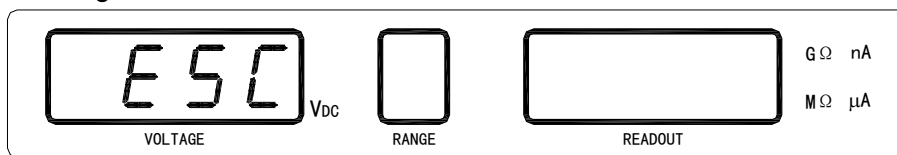

Figure 3-2 Exit The Main Setup Menu
- 5) Press **▲** or **▼** key to scroll through the main setup items, until "**ESC**" is flashing in the voltage window as shown in Figure 3-2. Press **SET/ENTER** key to exit the main setup menu and return back to the discharge status.